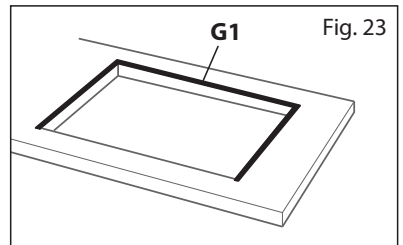

Fig. 23
- Models in fig. 2: spread the longer seal “G1” around the left, rear and right sides (fig. 23).